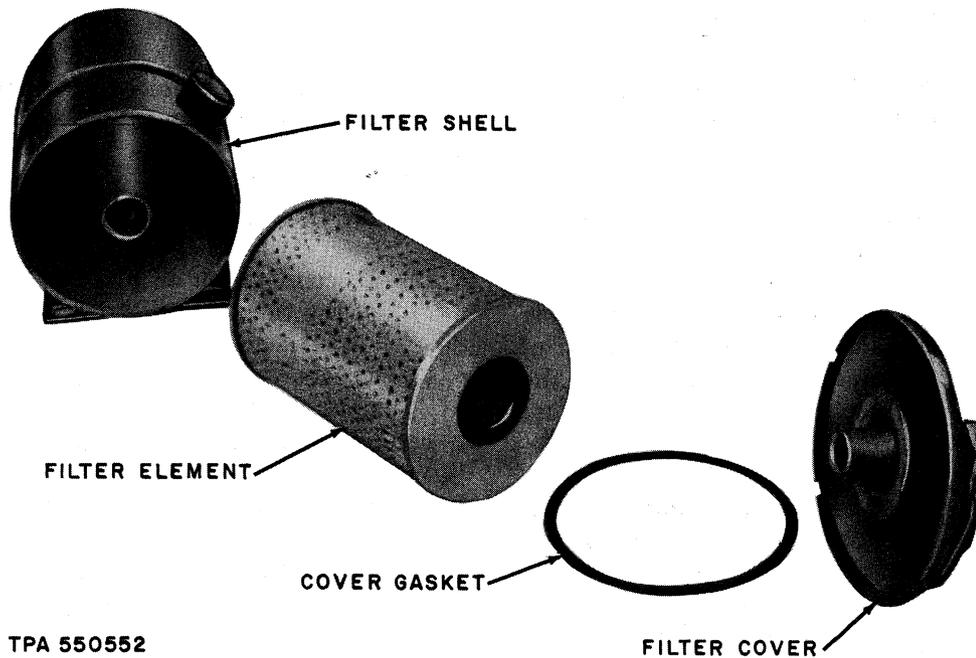

Fig. 5—Governor Filter Lube Oil Reservoir
- (7) Install the drain plug at the bottom of the filter shell.
- (8) Fill shell approximately 3/4 full of engine lube oil.
- (9) Tighten the cover bolt carefully to prevent damage to the gasket.
- (10) Connect the oil by-pass line to the cover bolt.
- (11) Start the engine and check all connections for oil leaks. If leaks occur, tighten as necessary. See Fig. 5.▲